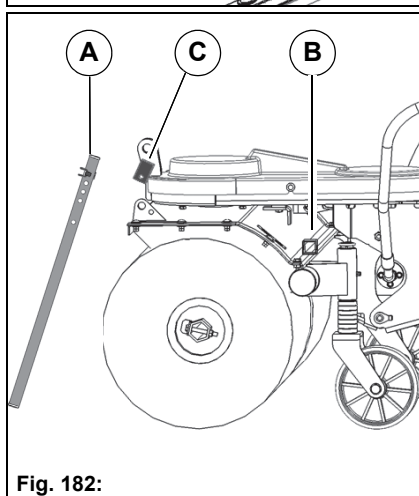

Fig. 182:
1. Loosen the support **Fig. 182-A** from the rear holder **Fig. 182-B** of the front sweeping machine by removing the bolt and split-pin.
2. Insert the support in the front holder **Fig. 182-C**.